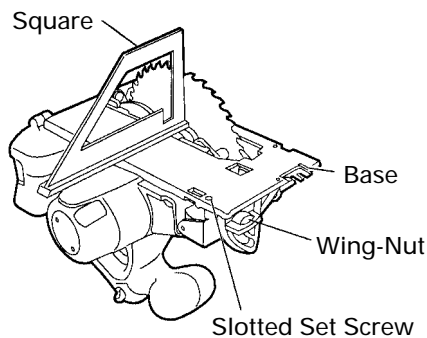

Fig. 24
(1) Turn the base face up (Fig. 24) and loosen the wing-nut.
(2) Apply a square to the base and the saw blade and, turning the slotted set screw with a slotted-head screwdriver, shift the position of the base to produce the desired right angle.